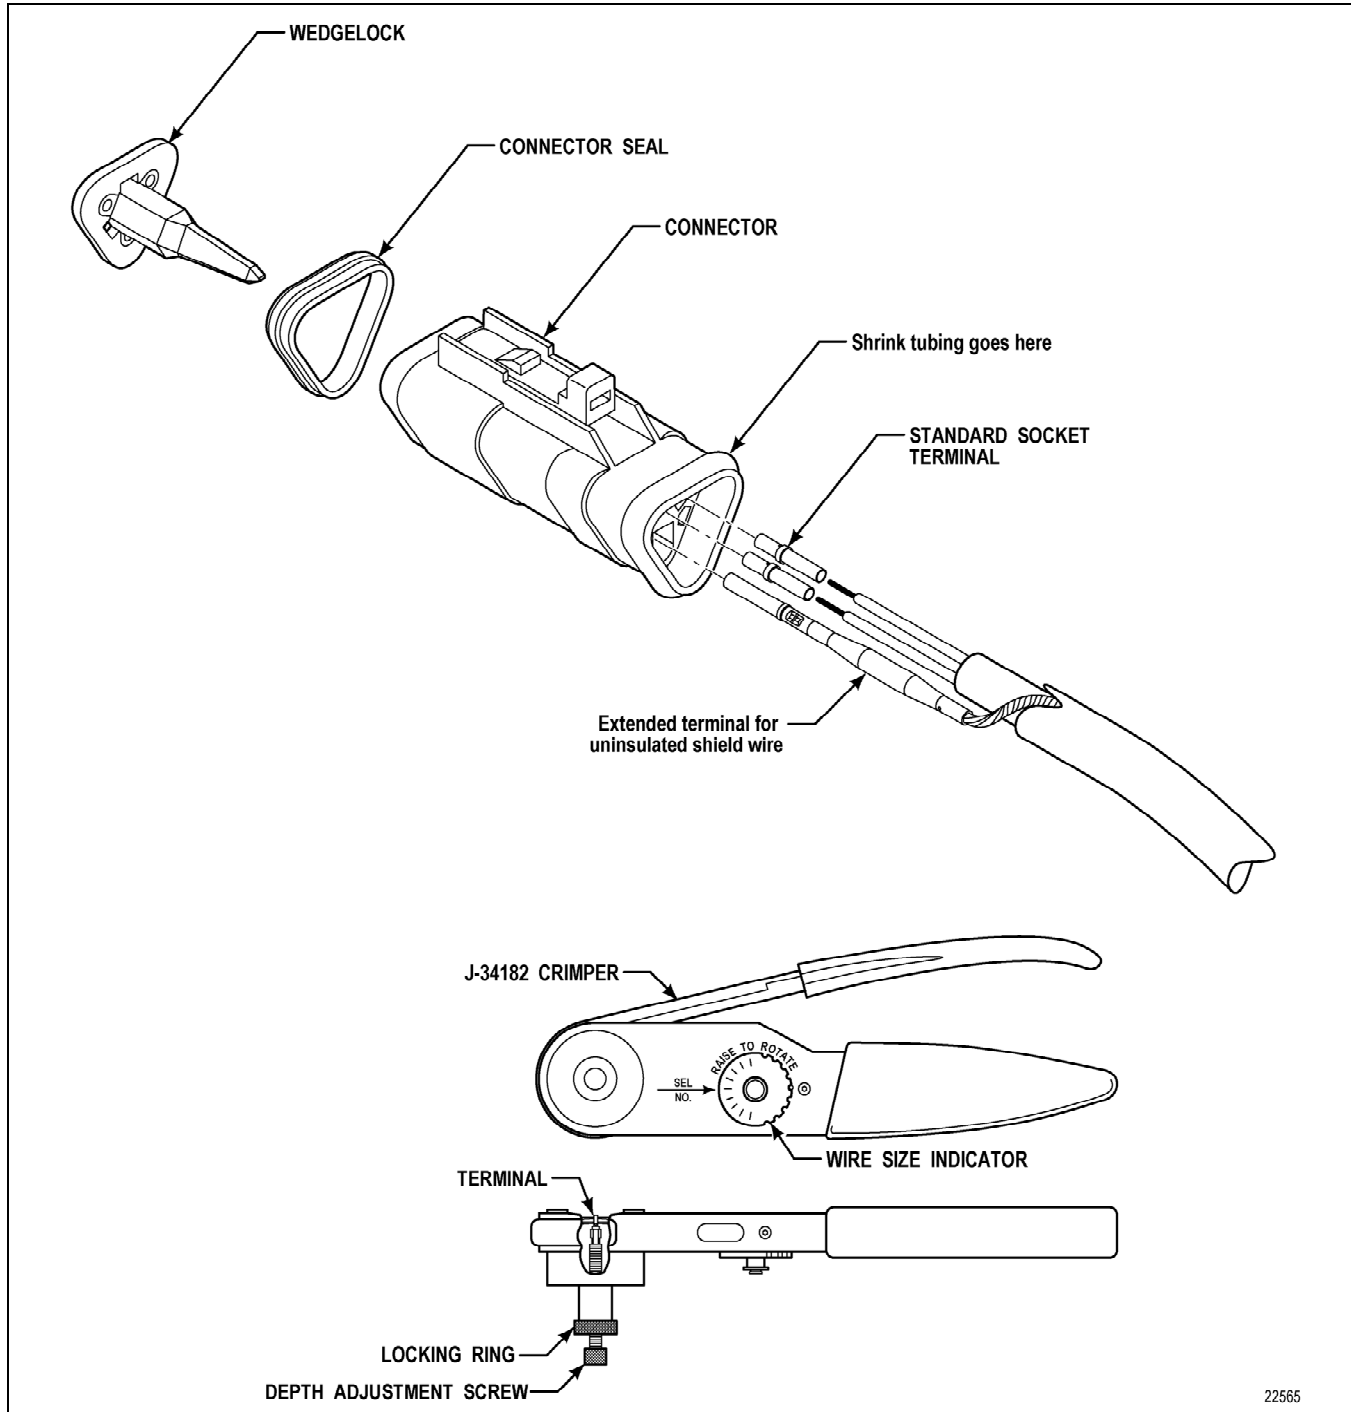

Figure G-22. Deutsch DT Series Connector (3-Way SAE J1939 Interface)
2. Push the terminal and wire into the connector until it locks into position (refer to Figure G-22). Check the front of the connector to see that the terminal is at the same height as other terminals. Tug on the wire at the rear of the connector to be sure the terminal is locked in place.